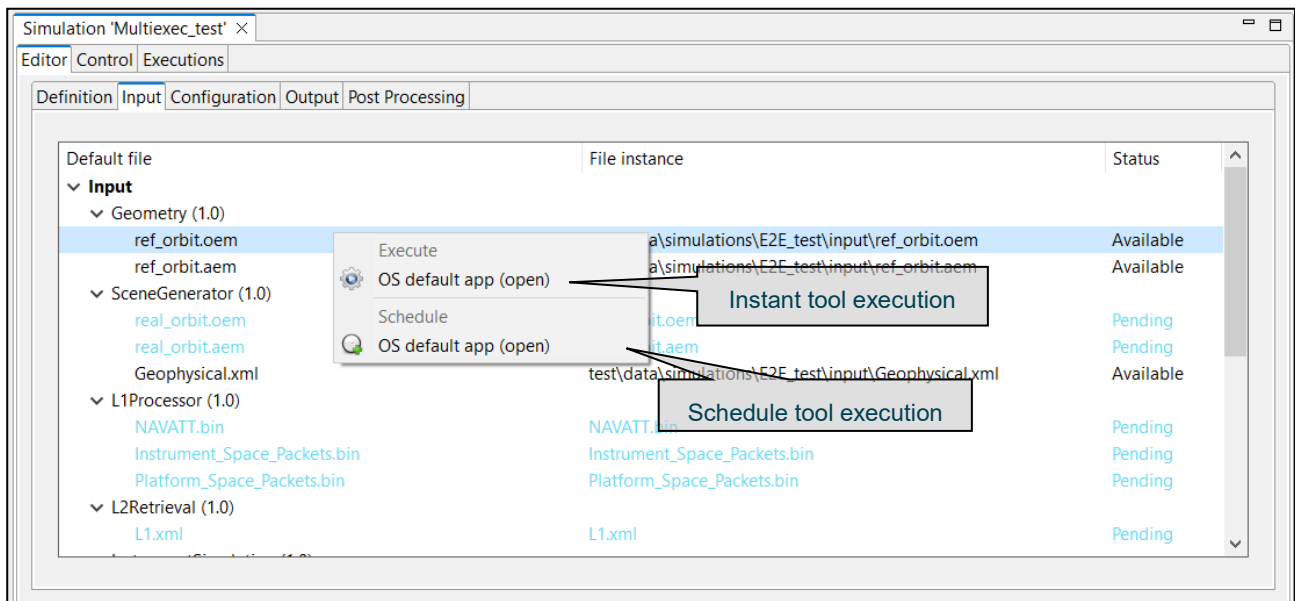

Figure 4-72: Tool Execution/Schedule from Simulation Edition View
- Tool execution from the simulation edit view and execution results view (see Figure 4-72). The execution view is the same as the simulation view with two particularities, 'Results' tab is enabled and the status is completed (successfully or not). Note that in the execution view the status of the output files is shown as Available if the simulation chain has been successfully executed while in the simulation editing the status is shown as Pending (see section 4.3.3.6.3).